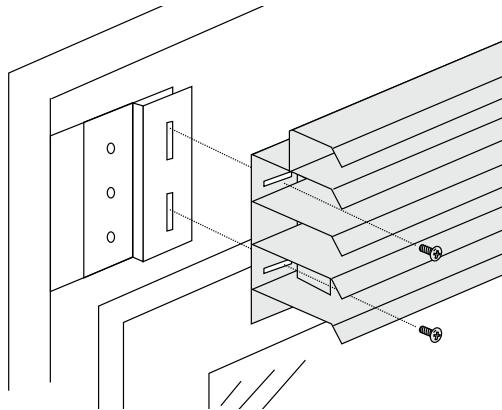

Figure 31a. Installing the upper louvre assembly
2. Install the upper louvre assembly as shown in figure 31a. Before tightening the screws fully, adjust the louvre assembly so that it is centred horizontally and vertically.